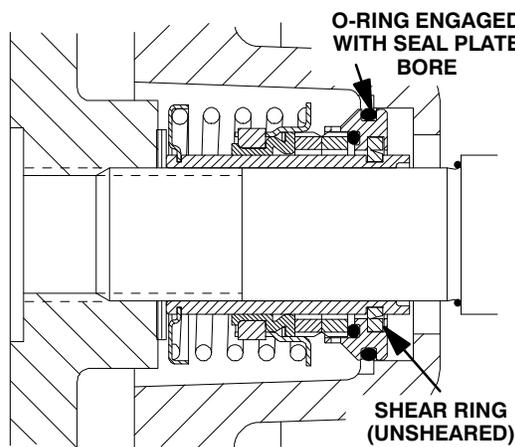

Figure 9. Seal Partially Installed
Clean and inspect the impeller as described in **Impeller Installation and Adjustment**. Install the set of impeller shims (3) provided with the seal and install the impeller key (30) in the shaft keyway. Position the impeller keyway over the impeller key and press the impeller onto the shaft until it is seated against the seal (see Figure 9).